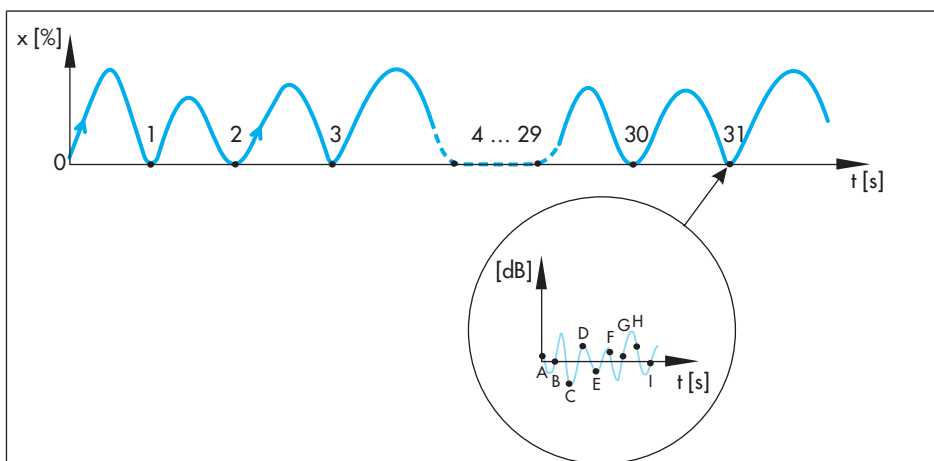

Fig. 12: Tight-closing process and calculated mean values for analysis of the process reference test
- **Very quick:** The mean value calculated from the current sound level and from the last four sound levels measured while the valve is tightly shut is used for monitoring (Fig. 12: Tight-closing event 31 and sound level E to I).
- **Quick:** The mean value calculated from all sound levels measured while the valve is tightly shut is used for monitoring (Fig. 12: Tight-closing event 31 and sound level A to I).
- **Slow:** The mean value calculated from the last 30 sound levels measured during short-term monitoring (see ► Section 9.2) is used for monitoring (Fig. 12: Tight-closing event 2 to Tight-closing event 31 with all sound levels).
- **Very slow:** The mean value calculated from all the sound levels measured during long-term monitoring (see ► Section 9.3) is used for monitoring (Fig. 12: Tight-closing event 1 to Tight-closing event 31 with all sound levels).